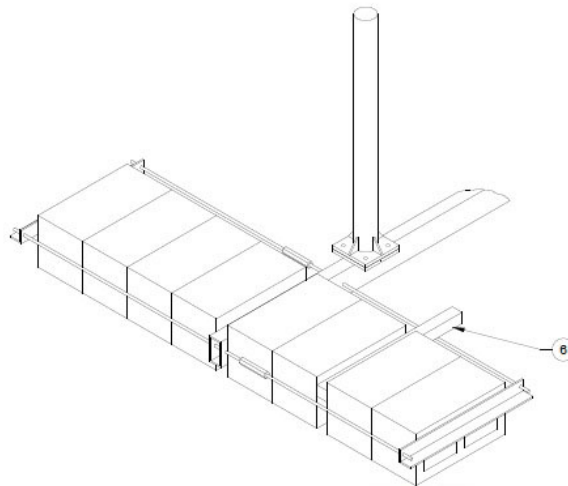

Figure 8: Lower Mount Angle Assembly
9. Facing the concrete blocks closest to the mast, insert the lower mount angle (6) between the second and third blocks from the support tube on the right side (see Figure 8).